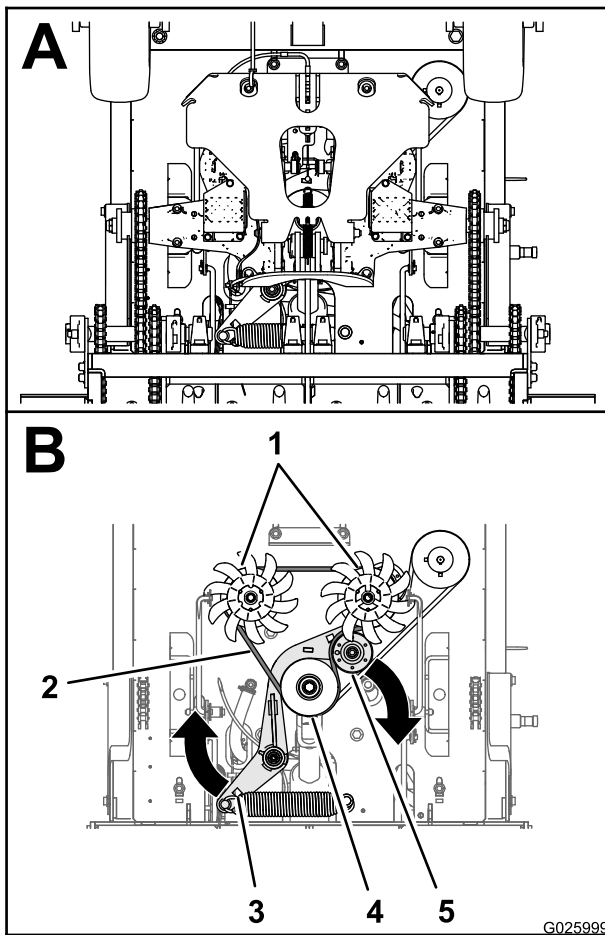

Figure 58
2. Insert a breaker bar into the socket of the belt-tension bracket and move the bracket outward and forward (Figure 58).
3. Slip the transmission-drive belt of the engine, tensioner, and transmission pulleys (Figure 58).
4. Route the new transmission-drive belt around the engine, tensioner, and transmission pulleys as shown in Figure 58
5. Release the belt-tension bracket and allow the spring to tension the belt (Figure 58).